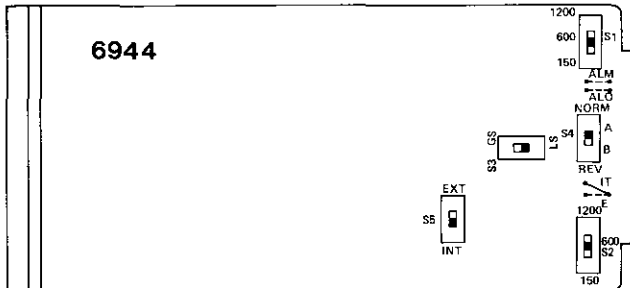

figure 3. 6944 option switch locations
shown in figure 3. A small number of less frequently used options are implemented by means of wire straps, also shown in figure 3. Tables 6 and 7 list all switch options and strap options, respectively, and indicate the option choices, which are explained below. The 6944 should be completely optioned and its optioning verified before alignment is attempted.
3.08 Carrier group alarm (CGA) strap options on the 6944 are used to forcibly remove the module from service when the associated carrier system malfunctions so that seizure of a disabled circuit is prevented. This is done by forcing the release of any call in progress via either the ALM (alarm master) lead (pin 47) or the ALO (alarm override) lead (pin 45) as described in paragraphs 2.17 and 2.18. To enable either lead for CGA forced release, the appropriate strap must be installed on the module's printed circuit board and the respective external lead connection made. If the ALM lead is to be used, install strap ALM as shown in figure 3 and connect the external ALM lead to pin 47. If the ALO lead is to be used, install strap ALO as shown in figure 3 and connect the external ALO lead to pin 45.
3.09 Additional strap options on the 6944 permit a choice of either monitoring of circuit seizures or E-and-M operation of the module, as described in paragraph 2.19. If traffic monitoring of circuit seizures is desired, leave strap IT in place (strap IT is normally factory-installed on all 6944 modules) and connect an external traffic-monitoring lead to pin 21. If it is desired that the module function as a "pseudo" E-and-M SF signaling unit, remove or cut strap IT, install strap E as shown in figure 3, and connect external E and M leads to pins 21 and 19, respectively.